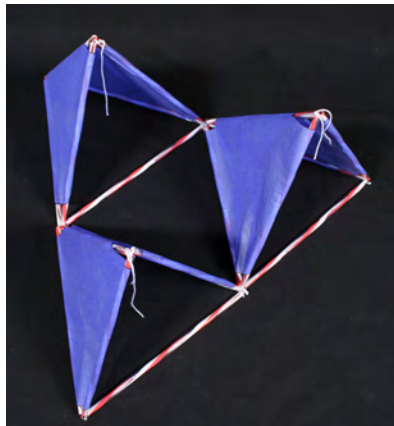

Fig. 15 Three tetrahedrons in the form of one large triangle
6. Now your tetrahedron should look like this: (See picture below, fig. 15).